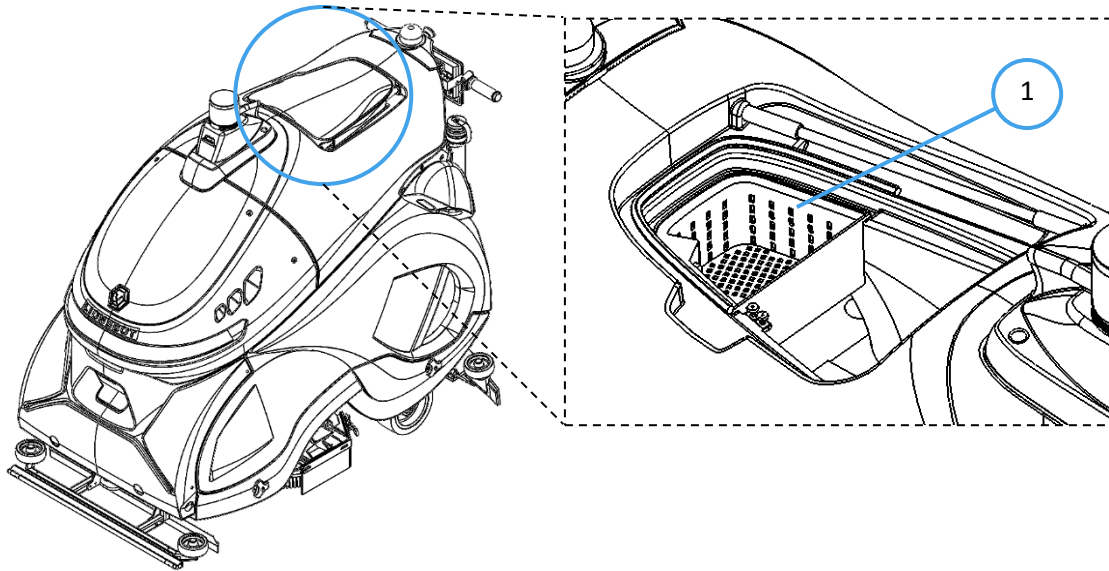

Fig. 2
4. Remove the debris cage (Fig 2 – 1)